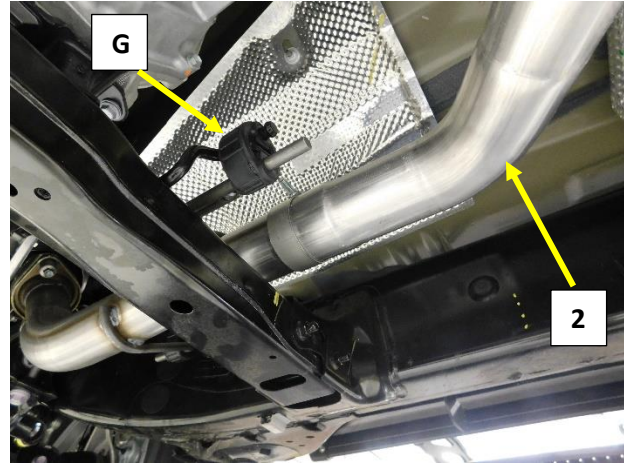

Figure.4
3. Install a 3" band clamp (9) onto the inlet (expanded section) of the Muffler inlet pipe (2). Position the clamp with the bolt at the top of the expanded section and the nut facing the transmission. **Fig.4/5**
4. Install the muffler inlet pipe (2) on to the down pipe (1), align the hanger rods with the frame hangers and install the rubber isolators. **Fig.4/5/6**